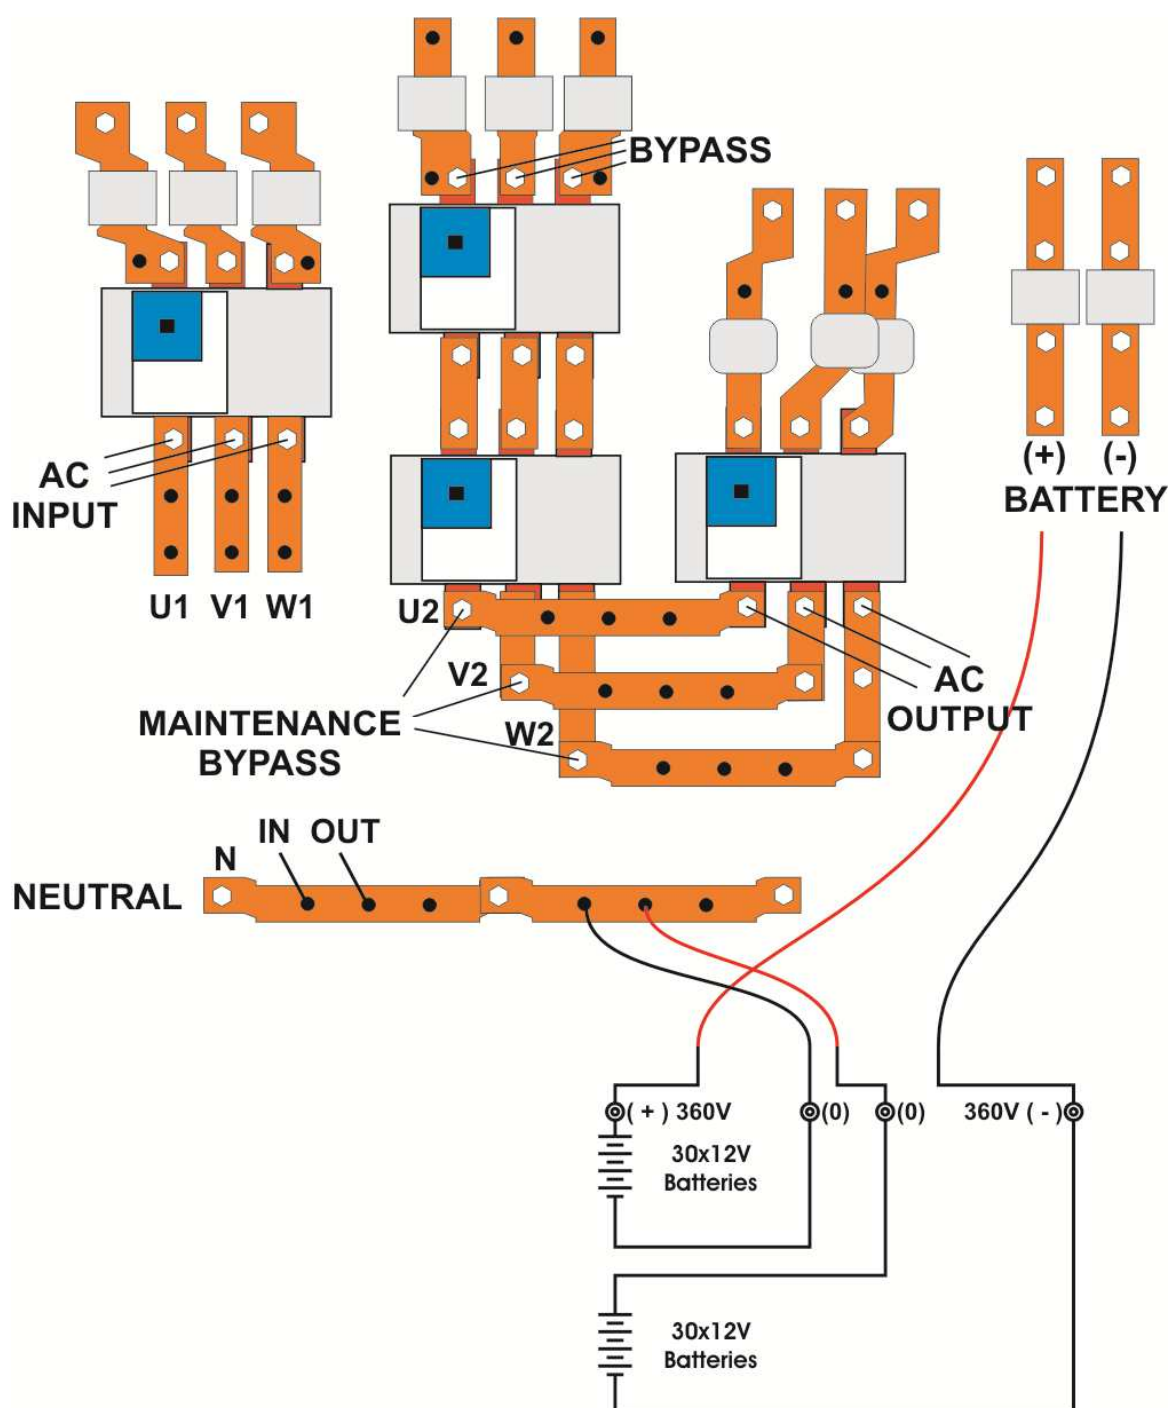

Figure 2.2 200 - 250 – 300-350 – 400-500 kVA POWER Cable Connection
Descriptions of the UPS input output cable connection terminals are shown in figure 2.2
2. Connect the 3 phase AC input coming from the mains distribution panel to the AC input terminals as shown on the label. (Figure 2.2)